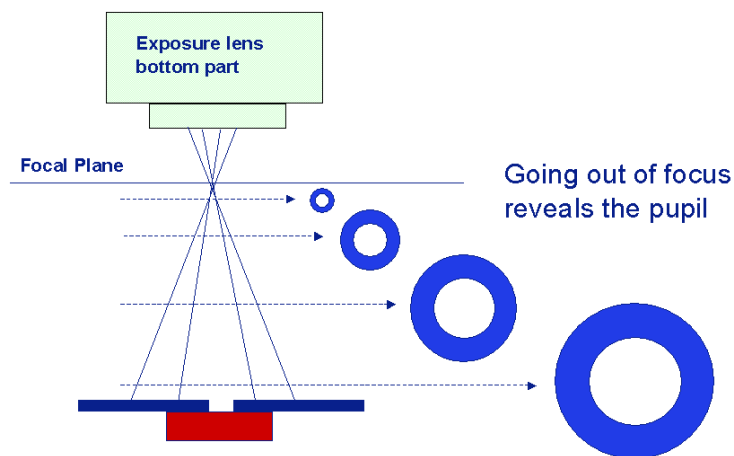

Figure 3.23 Going out of focus reveals the pupil
- How the TIS test works** The pinhole on the reticle is imaged on wafer level. Below wafer level, the light beam will expand again. There, it can be scanned by the TIS sensor. See figure 3.23.